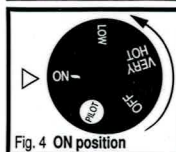

Fig. 4 ON position
- 9) Turn the control knob counter-clockwise ⤴ to the "ON" position (Fig. 4). Gas will flow to the main burner when the water temperature stored within the appliance is lower than the set-point temperature.